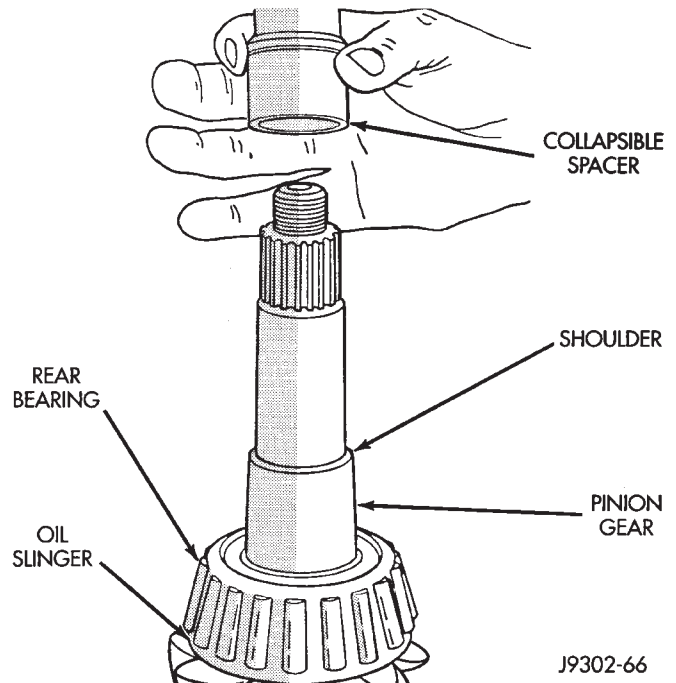

Fig. 14 Collapsible Preload Spacer
(1) Install a new collapsible preload spacer on pinion shaft (Fig. 14).
(2) If pinion gear was removed, install pinion gear in housing.
(3) Install pinion front bearing, if necessary.